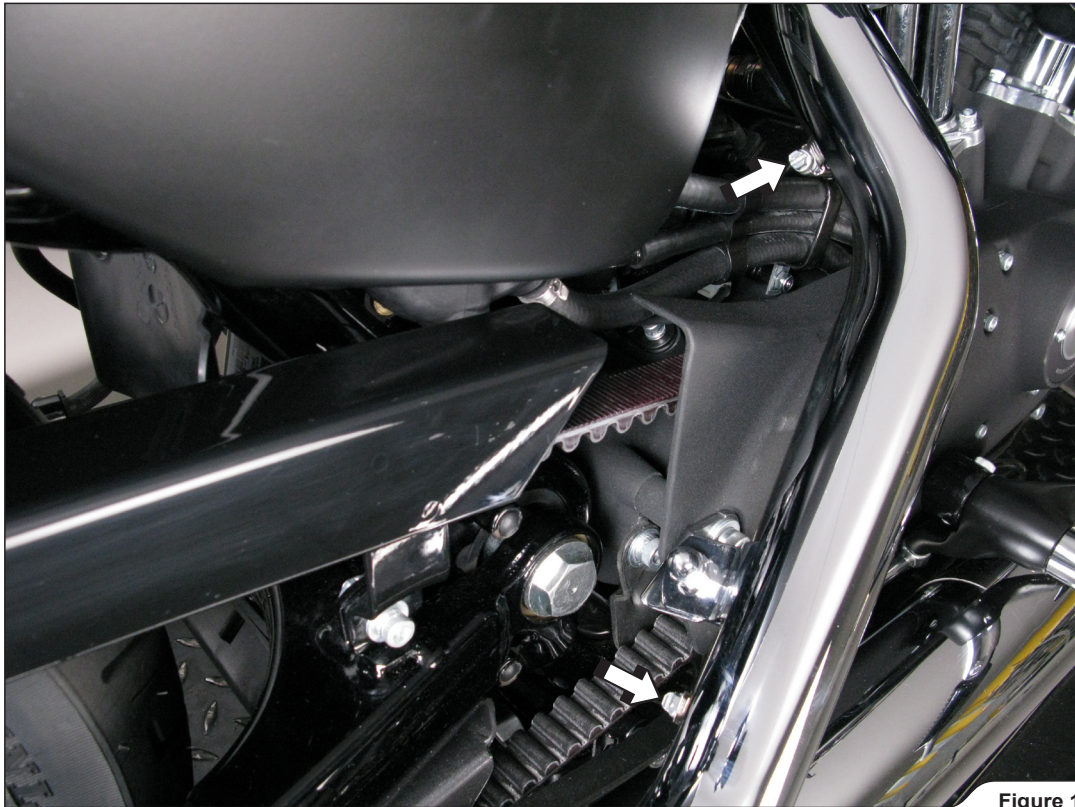

Figure 1
2. Unscrew the heat shields' tape clamps on both header pipes (**Figure 1**). Carefully remove both heat shields off the header pipes.